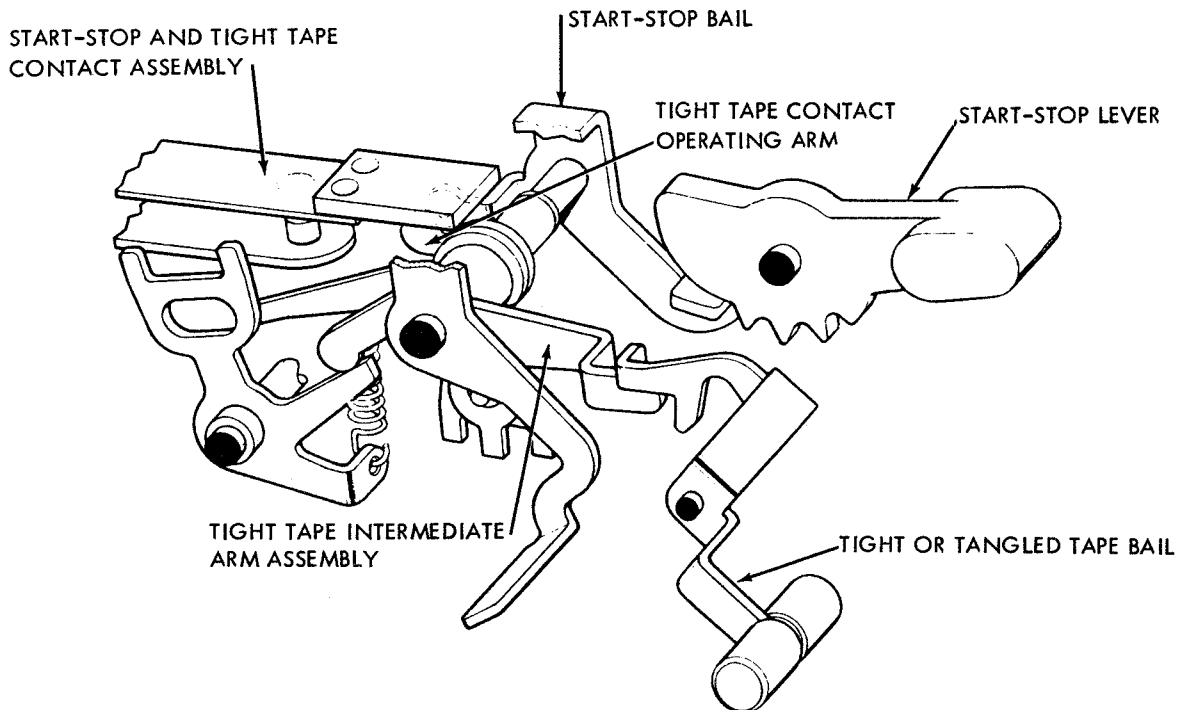
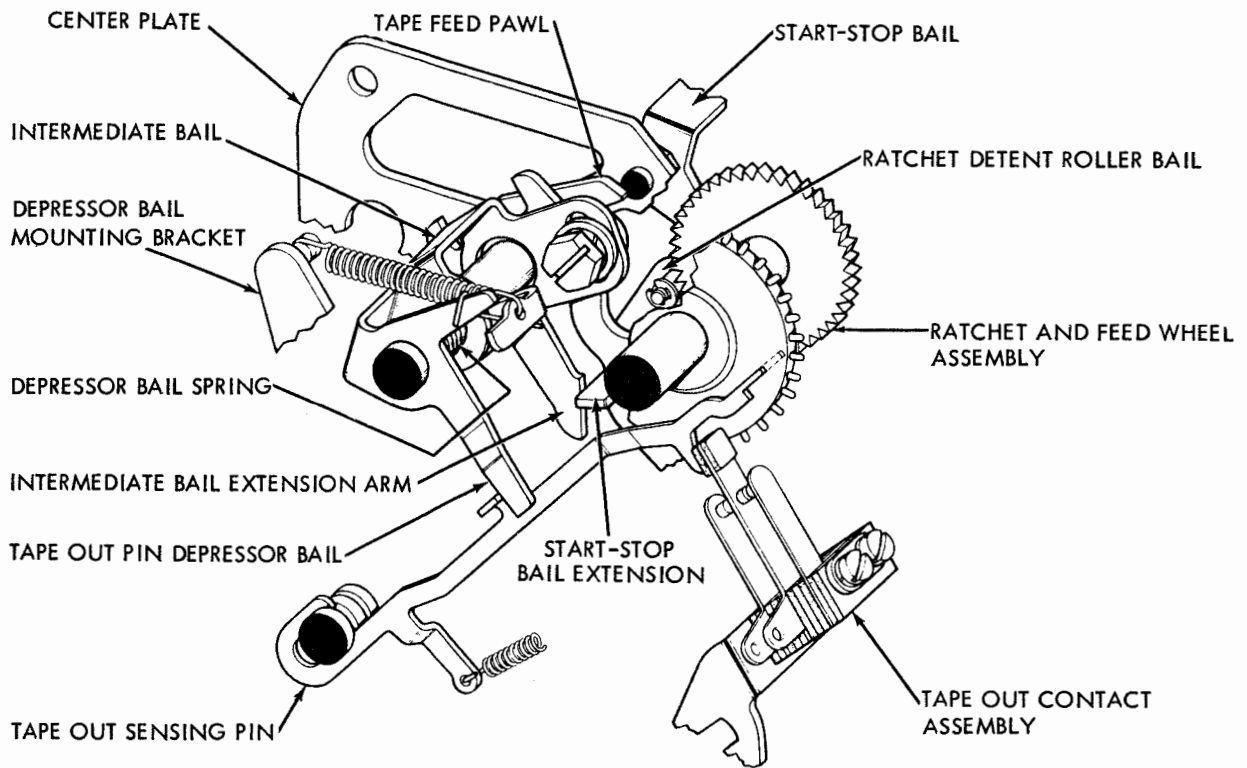

Figure 4-5. Start-Stop Lever and Tight Tape Switch Mechanism
Figure 4-12. Free Wheeling and Tape-Out Mechanism
(1) When the start-stop lever is moved to the right, the camming surface of the lever (figure 4-5) allows the start-stop bail to move upward. As the bail pivots on its mounting, the left extension of the
(2) FREE-WHEELING FEED WHEEL. (See figure 4-12.) — When the start-stop lever (figure 4-5) is pushed to the extreme left position, the start-stop bail is rotated clockwise. The bail extension pushes the feed pawl and the ratched detent roller out of engagement with the feed ratchet, allowing the feed wheel to rotate freely (figure 4-12). The bail extension also contacts the intermediate bail, which rotates clockwise, permitting the torsion spring loaded depressor bail to rotate, moving the tape-out pin flush with or below the tape guide plate. This permits free passage of the tape under the tape lid. Since the start-stop tight tape contacts are opened in establishing conditions for free-wheeling tape feed, the clutch magnets are de-energized, and the distributor-transmitter is in an idling condition. Positioning of the tape must be done manually. Release of the start-stop lever to its "STOP" position returns the tape feed pawl and detent roller into contact with the ratchet and releases the tape-out sensing pin, conditioning the equipment for operation when the start-stop lever is again moved to the right.
(3) TAPE-OUT SWITCH MECHANISM. (See figure 4-12.) — A tape-out sensing pin is located on the tape guide plate to the right and slightly forward of the five tape sensing fingers. An extension near the top of the sensing pin raises the swinger of the normally open tape-out contact when the spring loaded pin protrudes above the guide plate. When the pin is depressed, the swinger is released to close the contacts and close the clutch magnet circuit at this point.
(4) TIGHT TAPE SWITCH MECHANISM. (See figure 4-5.) — Tight or tangled tape raises the tight tape lever on the tape guide lid, rotating the tight tape bail counterclockwise. The bail arm pivots the intermediate arm clockwise, raising the contact arm upward, to lift the swinger of the start-stop tight tape contact upward to open the clutch trip circuit to stop transmission. Transmission will be resumed automatically when the condition is remedied, since the start-stop switch remains in operating condition through the interruption in transmission.